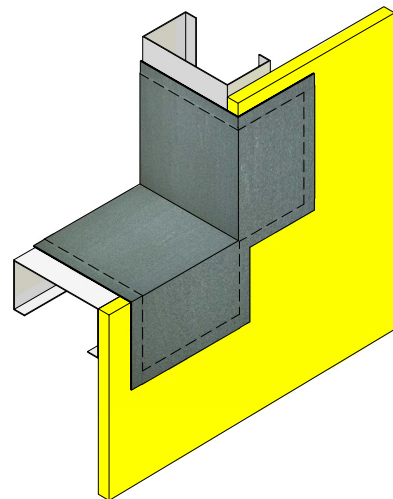

Figure 7
3. Apply additional Finestop RA/RS/VB onto the Sheathing Fabric to completely saturate and embed. Verify Sheathing Fabric is smooth, free of wrinkles and voids. (See Figure 7)